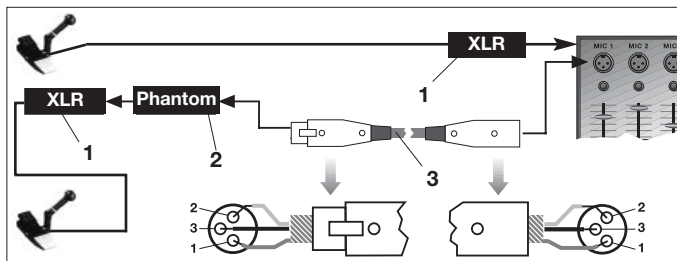

Fig. 1: Connecting to a balanced input.
Refer to fig. 1.
- Refer to fig. 1. 3. **If your mixer provides no phantom power:** Connect the phantom power adapter (1) to an optional AKG phantom power supply (2) (N 62 E, N 66 E, B 18, B 15) and use an XLR cable (3) (e.g., an optional MK 9/10 from AKG) to connect